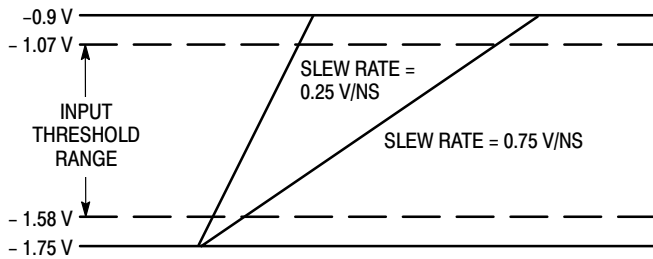
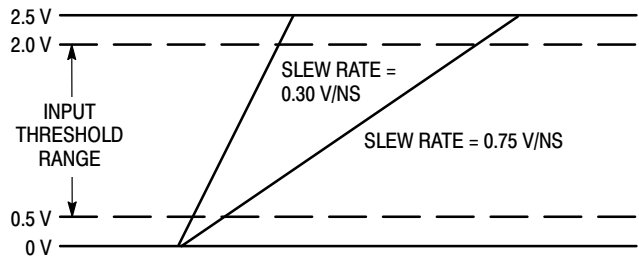

Figure 4. ECL Dispersion Test Input Conditions
Figure 5. TTL Dispersion Test Input Conditions
9. Refer to figure 4 and note that the input is at 850mV ECL levels with the input threshold range between the 20% and 80% points. The delay is measured from the crosspoint of the input signal and the threshold value to the crosspoint of the Q and $\overline{Q}$ output signals.
12. Refer to Figure 5 and note that the input is at 2.5 V TTL levels with the input threshold range between the 20% and 80% points. The delay is measured from the crosspoint of the input signal and the threshold value to the crosspoint of the Q and $\overline{Q}$ output signals.
Figure 4. and Figure 5. define a range of input conditions which incorporate varying input slew rates and input voltage overdrive. For input parameters that adhere to these constraints the propagation delay can be described as: